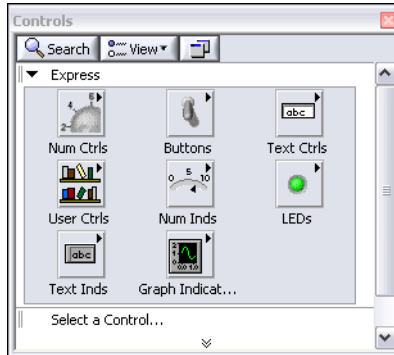

Figure 1-4. Controls Palette
1. If the **Controls** palette, shown in Figure 1-4, is not visible in the front panel window, select **View»Controls Palette**.
- If you are a new LabVIEW user, the **Controls** palette opens with the **Express** palette, shown in Figure 1-4, visible by default. If you do not see the **Express** palette, click **Express** on the **Controls** palette to display the **Express** palette.